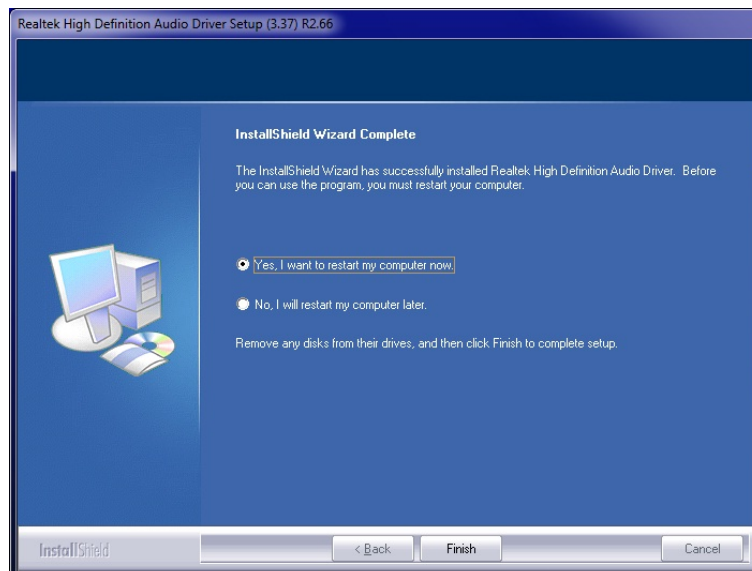

Figure 6-19: Restart the Computer
Step 8: After the driver installation process is complete, a confirmation screen appears (Figure 6-19).